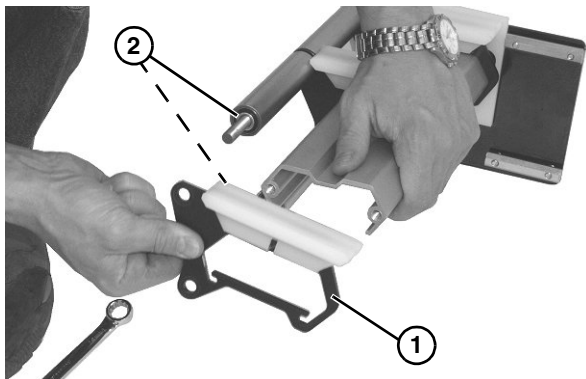

Figure 57
7. Slide the support plate (**Figure 57, item 1**) off of both axle shafts.
8. Remove washer (**Figure 57, item 2**) off of lower and upper axle shafts.